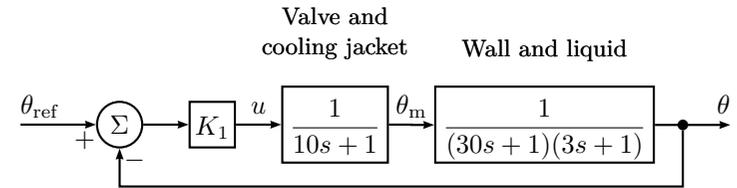

Figure 7.1c
- b) Suppose that we make a simple feedback loop instead, see Figure 7.1c. How is the Bode plot affected? Again, choose  $K_1$  so that the gain margin  $A_m = 2$ , and determine the gain crossover frequency  $\omega_c$  and the steady-state error. Compare with a) with respect to steady-state errors and response times. Conclusions?